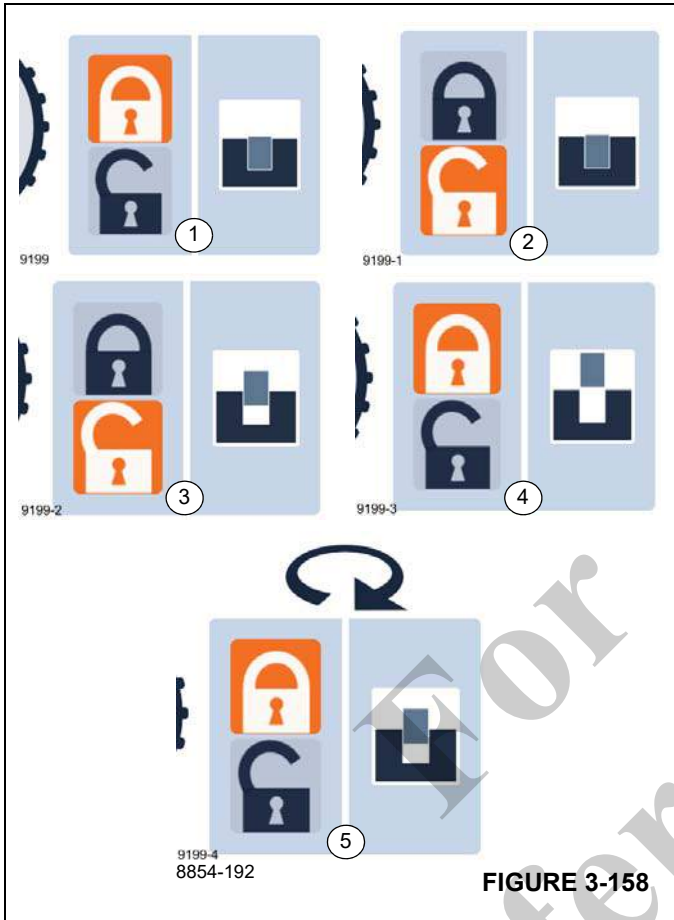

FIGURE 3-158
- Lock function highlighted, pin locked (1), (Figure 3-158).
- Unlock function highlighted, pin locked (2).
- Unlock function highlighted, pin in between (3).
- Lock function highlighted, pin unlocked (4).
- Lock function highlighted, pin in between error (5).